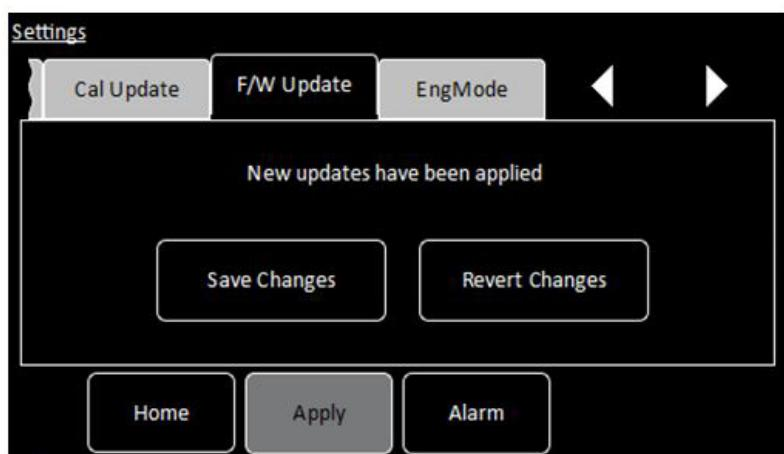

Figure 6-4 F/W Update tab in TRIAL mode
- c) Tap **Save Changes** to accept the new firmware version. (see Figure 6-4)